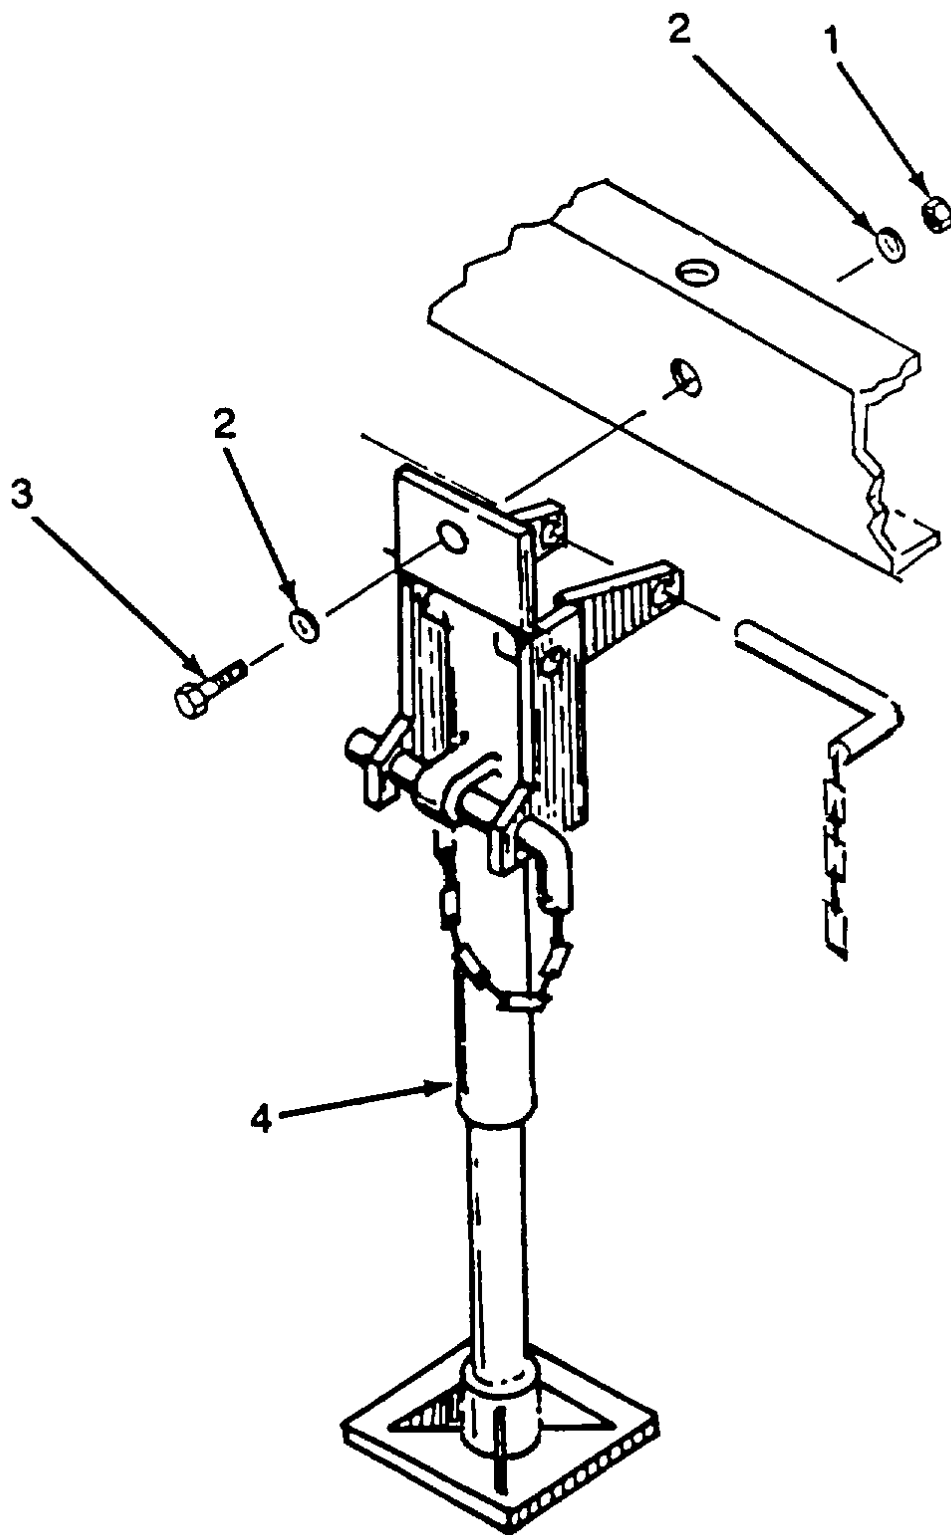

Figure 4-16. Leg Prop Assembly.
**4-25. LEG DROP ASSEMBLY (Figure 4-16).**